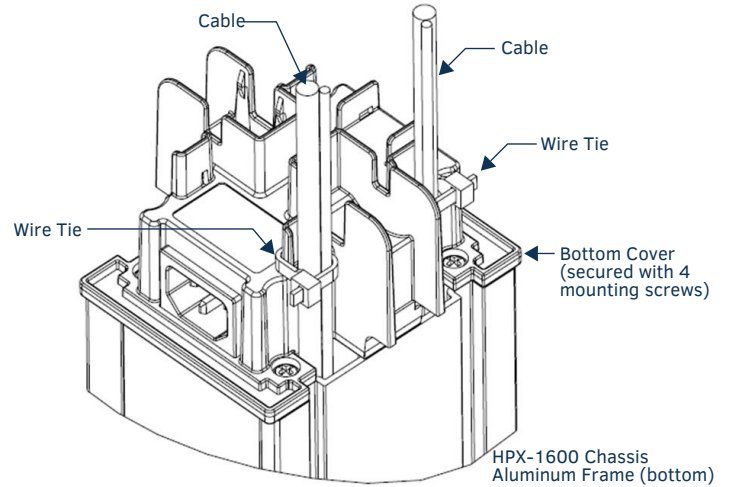

FIG. 7 BOTTOM COVER - INSTALLED WITH CABLES EXITING AND SECURED
2. After the bottom cover is secured using four screws, secure the cables to the corresponding tab near each opening using a small cable tie (FIG. 7).